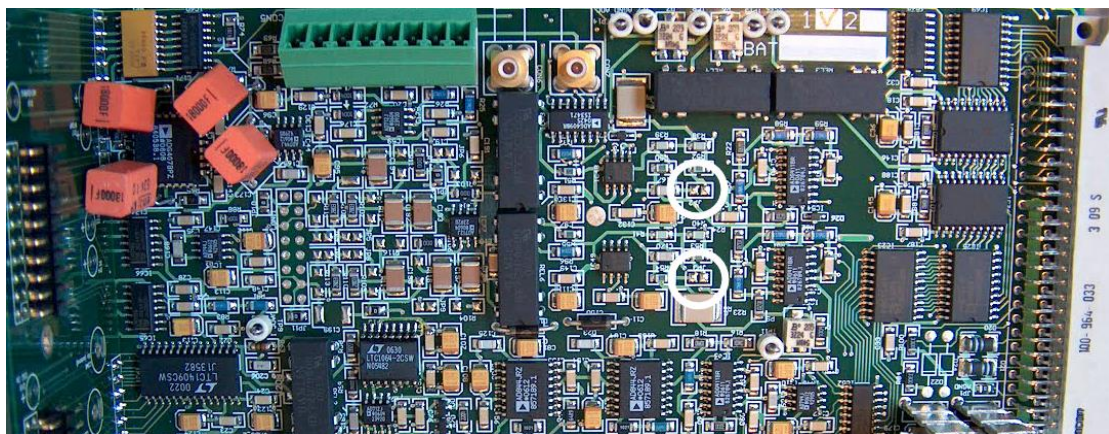

Figure 79 – The FRA2 Analog board (JP2 and JP3 are highlighted)
1. ESD safety kit (see Figure 79)
The modification requires soldering **JP2** and **JP3** of the analog board of the FRA2 module. Figure 79 shows a picture of the Analog board. The two jumpers are highlighted.